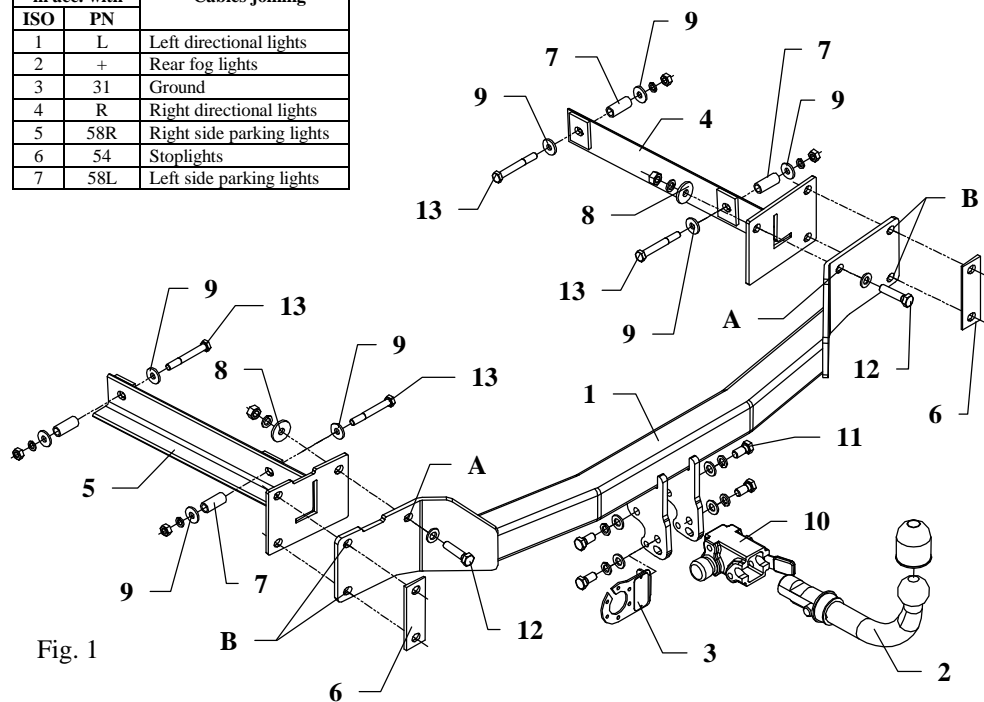

Fig. 1
6. Slip side arms (pos. 4 and 5) to chassis members and fix them (in accordance with fig. 1) using bolts M10x80mm (pos. 13). Use distance sleeves (pos. 7) and large washers (pos. 9).
7. Apply the main bar of the towing hitch (pos. 1) to already installed side arms and fix it trough holes A using bolts M12x50mm (pos. 12). Use large washers (pos. 8).
8. Install fulfilment of the bumper and heat shields. Install the bumper in points B using original bolts and cut fish-plates (pos. 6).
10. Fix body of the automat (pos. 10) and the socket plate (pos. 3) using bolts M12x25mm (pos. 11) from accessories. Place tow-ball (pos. 2) according to supplied instruction.